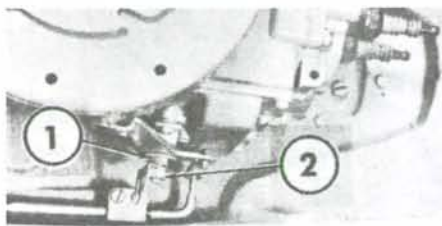

Fig. C2-3—The speed control grip should require 18-30 inch pounds torque to turn. Refer to text for adjusting friction.
The speed control grip should require 18-30 inch pounds torque to turn. Friction is adjusted by tightening the inside nut (1—Fig. C2-3). After adjusting, tighten lock nut (2) to maintain correct friction on lever.